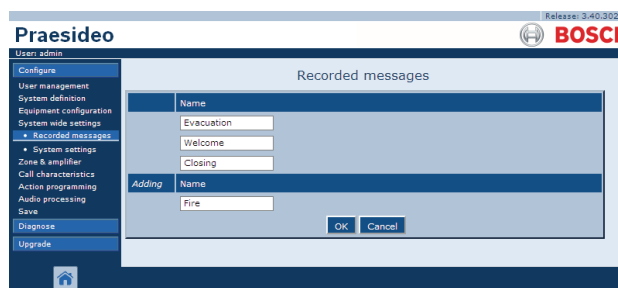

figure 45.4: Register message, step 3
- 3 Enter the name of the WAV file in the message set in the *Name* field (see figure 45.4 for an example).